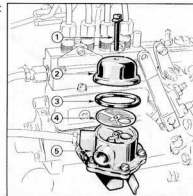

Fig. 18 Bosch Fuel Lift Pump
3. Remove the two union nuts and withdraw the valves. (Fig. 18).